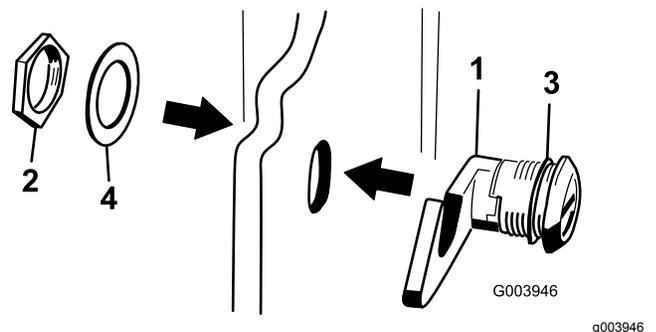

Figure 19
3. Remove the nut from the hood-latch assembly (Figure 19).